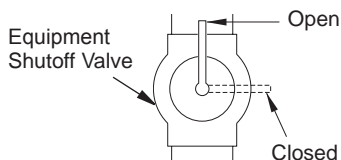

Figure 18 - Equipment Shutoff Valve
1. Close equipment shutoff valve (see Figure 18).
1. Open equipment shutoff valve (see Figure 18, page 16).